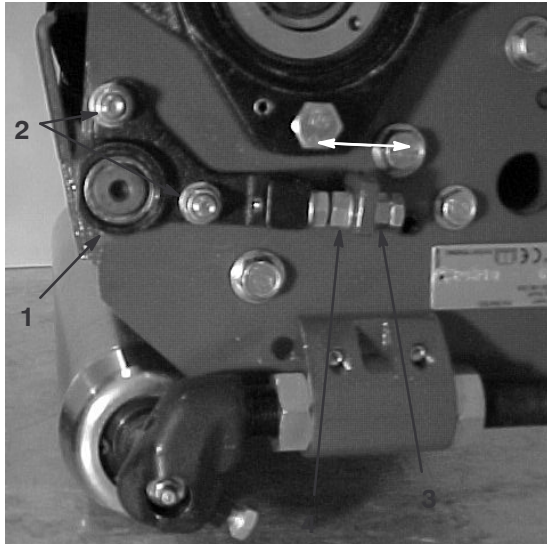

Figure 5
A. Loosen the pivot hub lock nuts to allow movement of the pivot hub casting (Fig. 5).
5. If paper was not cut on the left side: loosen the bottom adjusting nut on the pivot hub, then turn the top adjusting nut clockwise to pull the pivot hub up. **OR** If paper was not cut on the right side: loosen the top adjusting nut on the pivot hub, then turn the bottom adjusting nut counterclockwise to push the pivot hub down (Fig. 5).